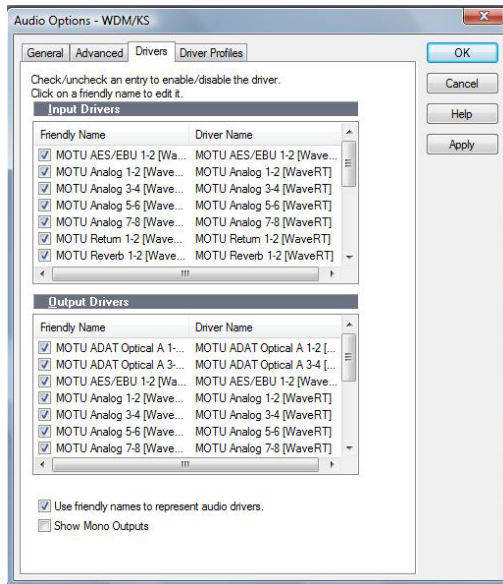

Figure 8-2: Activating the MOTU audio WDM driver in SONAR by highlighting *Traveler-mk3* inputs and outputs.
- 5 Check the *Traveler-mk3* inputs and outputs that you wish to use and uncheck the ones you don't as shown in Figure 8-2.
Once you've enabled the Traveler-mk3 inputs and outputs in the Drivers tab of Sonar's Audio Options window (Figure 8-2 on page 63), Traveler-mk3 audio inputs and outputs will appear in Sonar's input/output menus, and you can set them up and use them as any standard audio input and output. If you don't see the optical inputs and/or outputs, check MOTU Audio Console to make sure they are turned on and set to the format you need. If you don't plan to use the optical input or output, turn it off to conserve computer bandwidth.